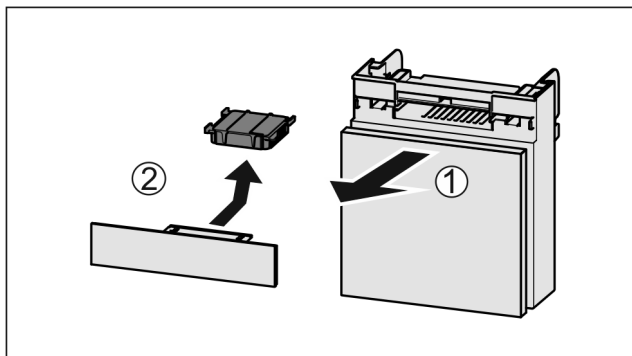

Fig. 55
- Pull out the compartment Fig. 55 (1).
- Remove the carbon filter Fig. 55 (2).